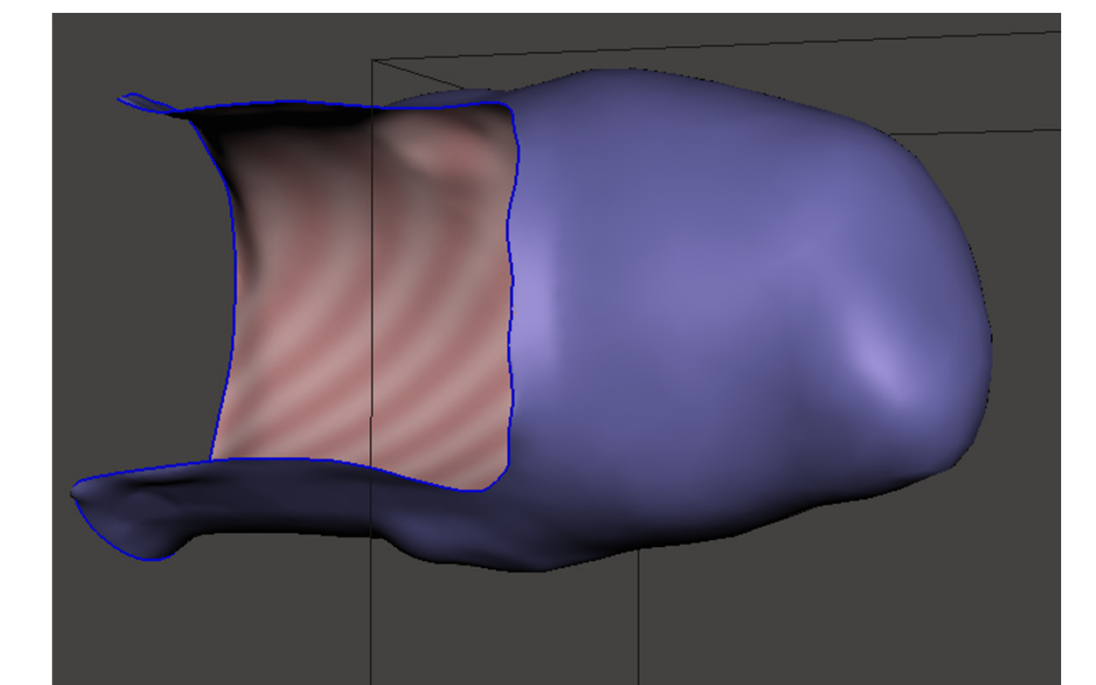

Figure 8: 3D scan of client's residual limb for socket design
- Custom fitted socket for our client (Figure 8).